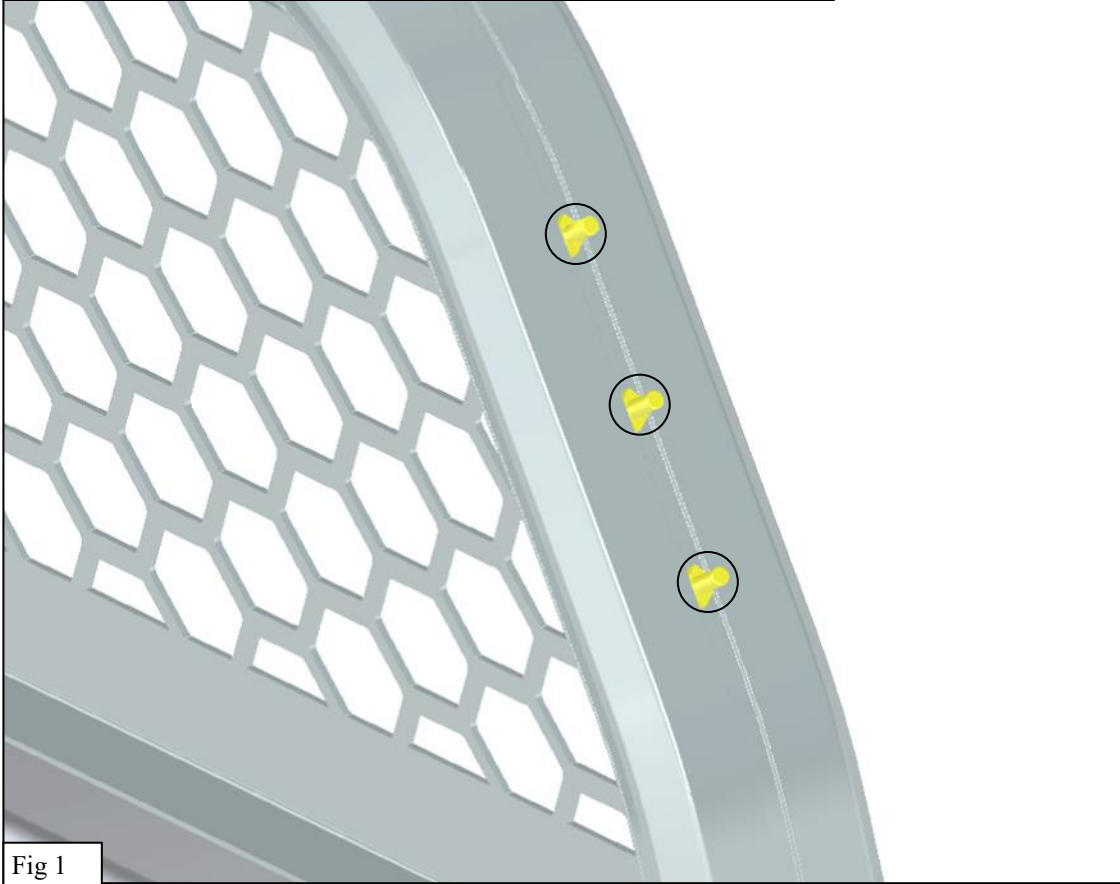

Fig 1
2. Use the supplied M8 Hardware to secure the Mounting Bracket to the HLR Rack. See **Figures 1 & 2.**